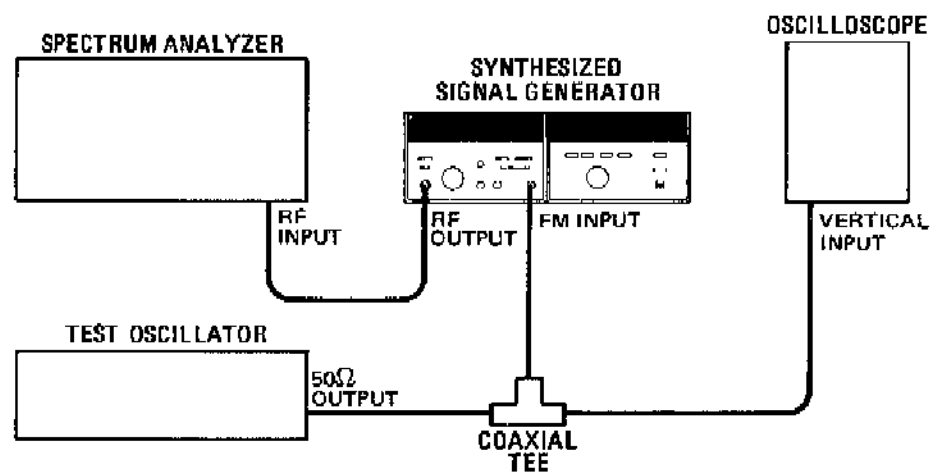

Figure 5-6. YTO Loop Offset and FM Overmodulation Test Setup
3. Connect the equipment as shown in Figure 5-6.